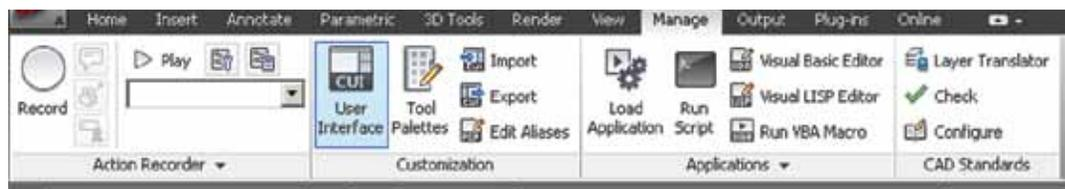

Figure 1: Customize User Interface
**T**he Customize User Interface (CUI) in AutoCAD® Architecture allows you to tailor your drawing environment to suit your needs. Before you start customizing your own menus, toolbars, and workspaces, you should familiarize yourself with the customization environment. Open the Customize User Interface Editor by clicking the Manage tab of the ribbon, Customization panel, and then User Interface (see Figure 1). Once you have opened the Customize User Interface (CUI) Editor, you can view the contents of the loaded customization files by expanding the elements in the tree structure and viewing the properties of the elements by selecting them. You can also select the Transfer tab to see how to migrate or transfer customizations, and select the Customize tab to see how to create or modify user interface elements. Once you are familiar with the environment, you can start to take advantage of the capabilities of the tools.